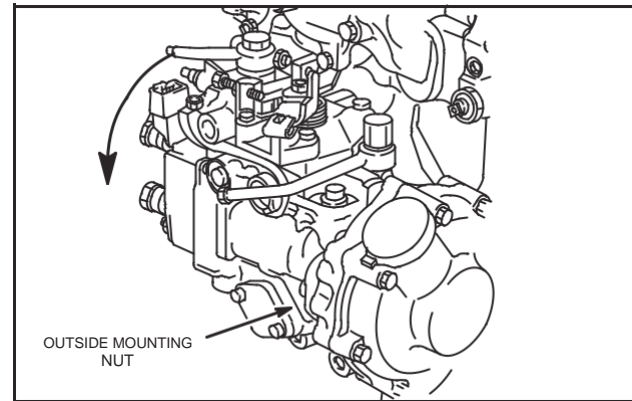

Fig. 9 – Adjusting Timing
3. While observing dial indicator, slowly rotate injector pump away from cylinder head until indicator shows correct specification. Hold injector pump in this position and tighten outside pump mounting nut, Fig. 9.